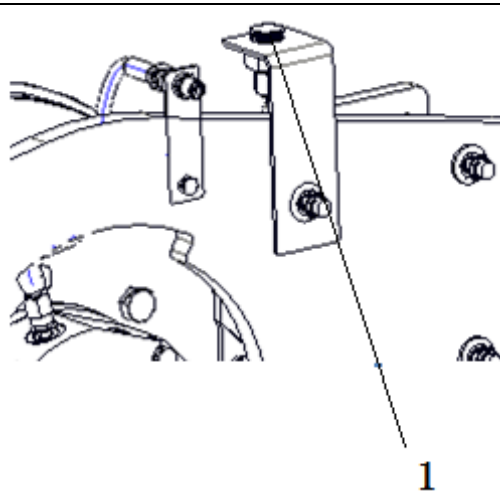

Figure 3-9
3.4.1.6 Check the breathing plug (Figure 3-9)